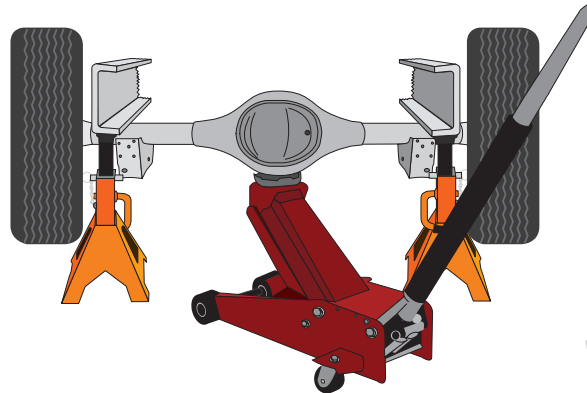

fig. D.1
1. Raise the vehicle and support it, using safety stands or equivalent, so that the axle can be safely dropped away from the frame. This needs to be done in order for the air spring assembly to be put into position between the axle and frame (Fig. D.1).